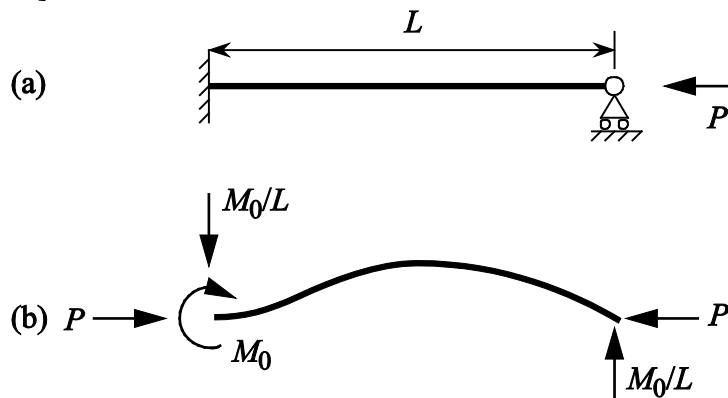

Figure 5
- * 7. Figure 5(a) shows a strut of bending stiffness EI which is built in at one end, and pinned at the other, and is subject to a compressive load P . Figure 5(b) shows a free-body diagram of the strut in its buckled configuration. Note that because the structure is not symmetrical it has to carry a shear load to satisfy equilibrium.